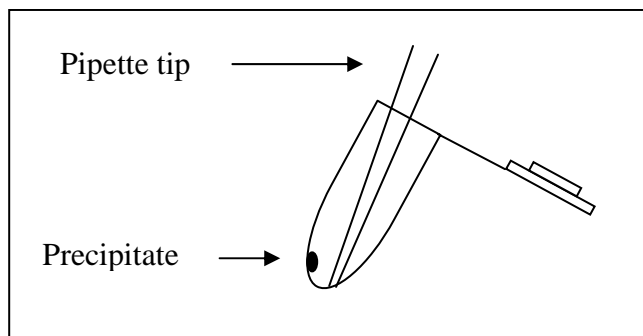

Figure 25.6-A: Avoid Pipetting the Precipitate
- To pipet out the S-Alexa 647 dye aliquot, tilt the microcentrifuge tube to a 45-degree angle with the side that was facing out while inside the centrifuge facing away from you. Place the pipette tip on the opposite side at the bottom of the tube, *i.e.* pipette tip is positioned at bottom of tube at side nearest you as shown in Figure 25.6-A. Avoid pipetting any precipitate.